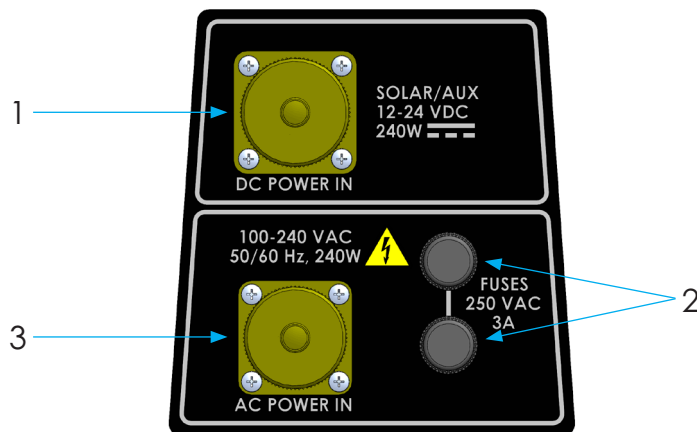

Figure 59. Change Fuse
The AC power fuses (item 2, Figure 59) are located adjacent to the power input connectors (item 2).